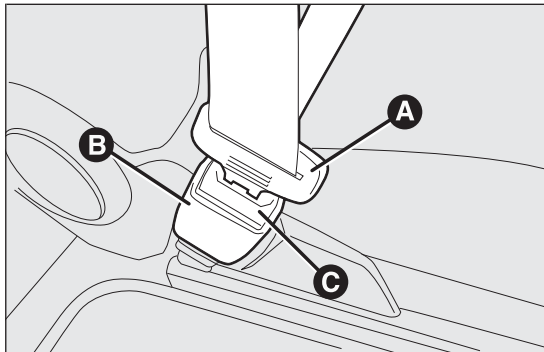

fig. 96
To fasten the seat belts, hold the tongue A fig. 96 and insert it into the buckle B, until the locking click is heard.
**Never press button C fig. 96 when travelling.**